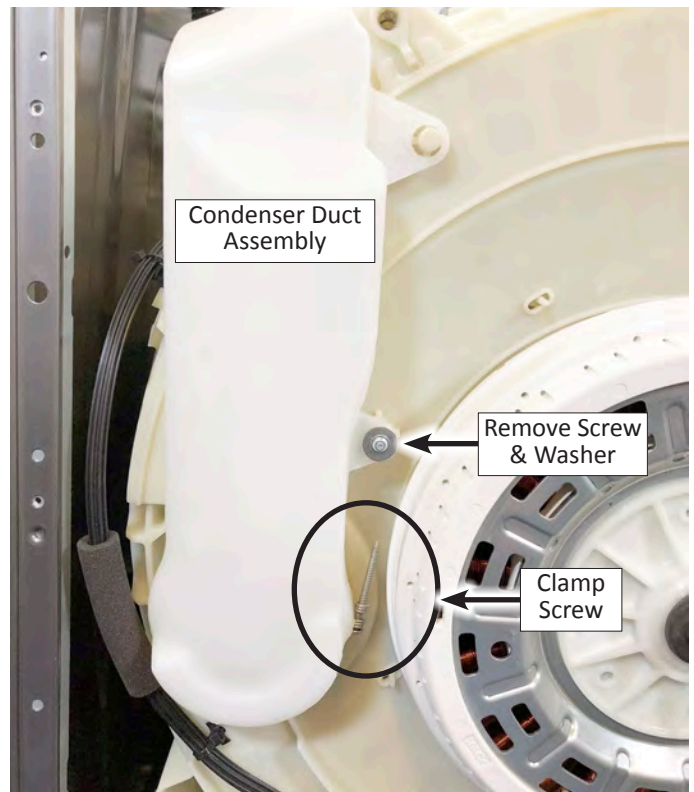

Figure 2
8. Using a Phillips screwdriver, loosen the clamp screw securing the condenser duct to the rear of the tub assembly. See Figure 2.
9. Using a T20 Torx driver, remove the screw and washer as shown in Figure 2.